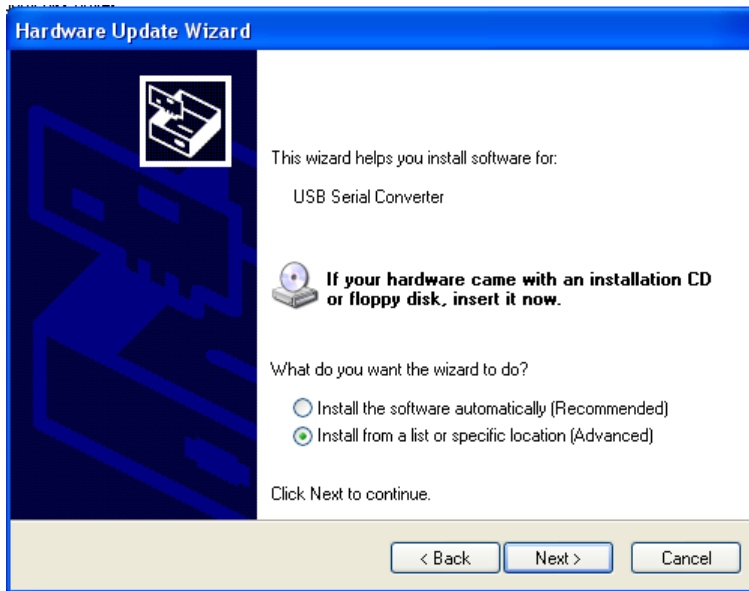

Fig. 48
- Select "Install from a list or specific location (Advanced)" as shown below and then click "Next" (*Fig. 48*).